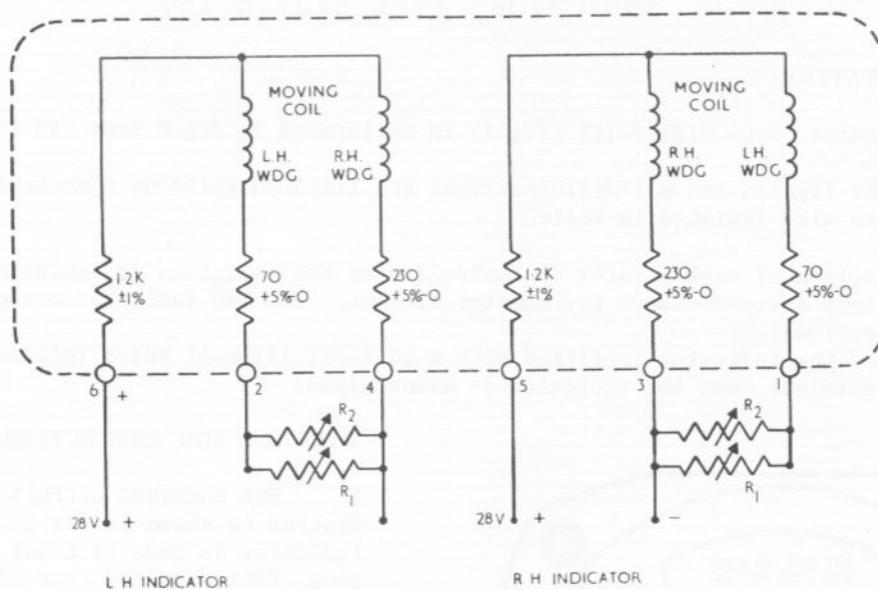

Fig.2 Circuit and test circuit diagram
8. Set the resistance boxes to be used as R1 and R2 to 110 ohms and 40223 ohms respectively, then connect the indicator to the test circuit shown in fig.2 for the left-hand indicator.